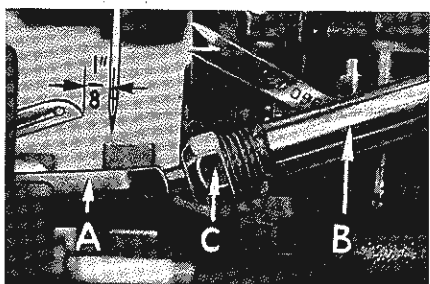

Fig. 4
At this point, insert lower looper (A, Fig. 4) into bar (B). With lower looper at left end of its stroke, set looper point $\frac{1}{8}$ inch from center of needle (Fig. 4) using looper gauge No. 21225-1/8. Do not have lower looper deflecting needle. Tighten nut (C). Now assemble differential (front) feed dog.